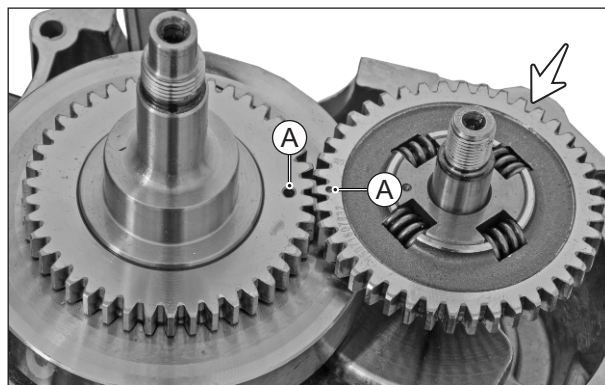

Fig. 3.180
- Assemble the gear balancer shaft driven assembly on the balancer shaft. (Fig. 3.180)